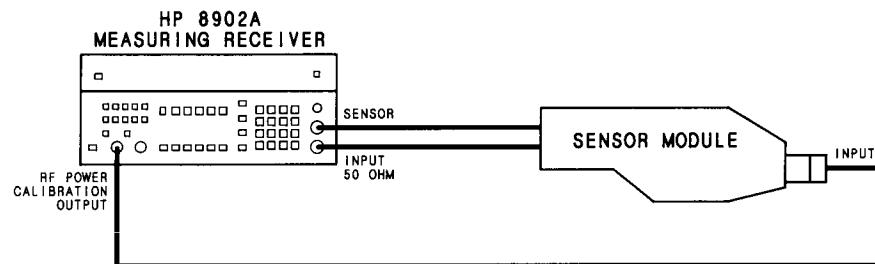

Figure 3-6. RF Power Calibration Setup
1. Connect the multi-conductor cable of the sensor module to the SENSOR input connector. Connect the RF coaxial cable of the sensor module to the INPUT 50Ω connector (see Figure 3-6). Remove any cables from the Measuring Receiver's RF INPUT and SENSOR input connectors. Select INSTR PRESET (Blue Key, AUTOMATIC OPERATION). Observe the front-panel LED annunciators, display segments and decimal points, and key lights. All LEDs should light for approximately 10 seconds at turn on and then all should momentarily turn off.
3. Connect the sensor module input to the RF POWER CALIBRATION OUTPUT connector. (See Figure 3-6.)